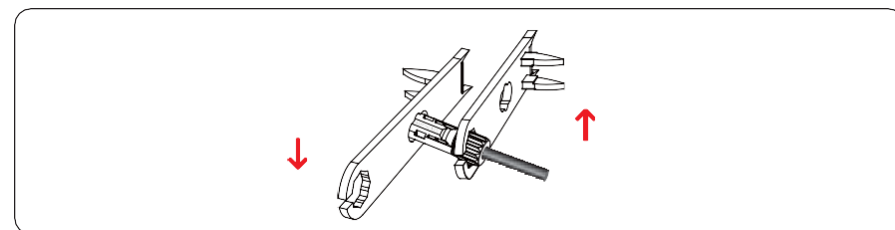

Figure 5.11 Locking connectors
**Step 4** Tighten the locking nuts on the positive and negative connectors using a removal wrench, as shown in Figure 5.11.